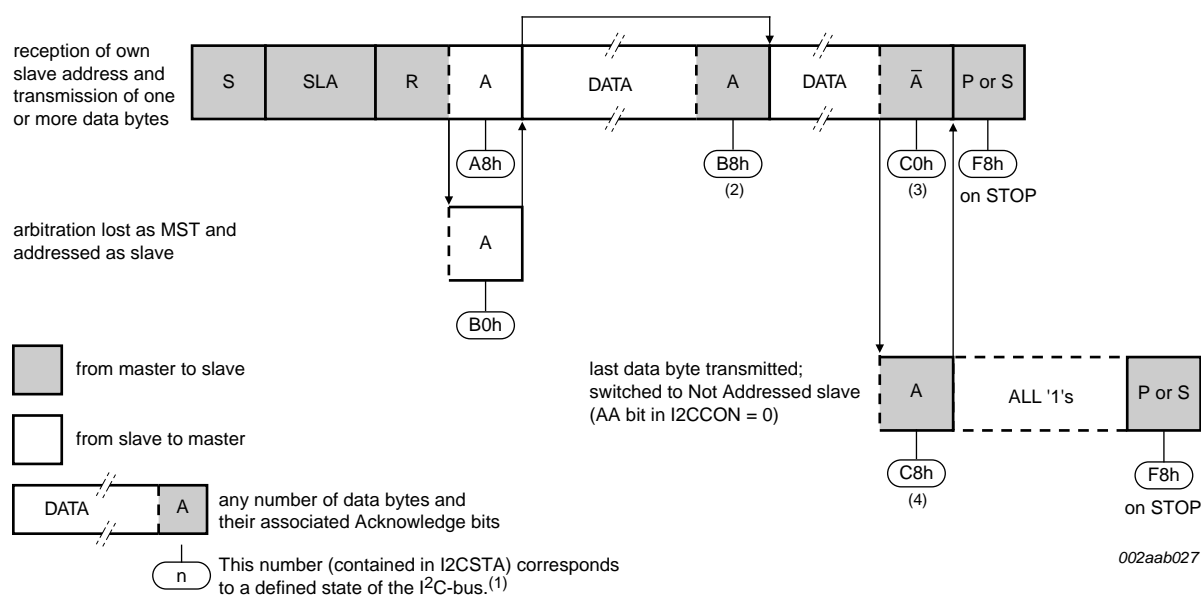

Fig 9. Format and states in the Slave Transmitter Byte mode (MODE = 0)
In the Slave Transmitter Byte mode, a number of data bytes are transmitted to a master receiver one byte at a time (see Figure 9). Data transfer is initialized as in the Slave Receiver Byte mode. When I2CADDR and I2CCON have been initialized, the PCA9665/PCA9665A waits until it is addressed by its own slave address followed by the data direction bit which must be '1' (R) for the PCA9665/PCA9665A to operate in the Slave Transmitter mode. After its own slave address and the R bit have been received, the Serial Interrupt flag (SI) is set, the Interrupt line ($\overline{\text{INT}}$) goes LOW and I2CSTA is loaded with A8h. This status code is used to vector to an interrupt service routine, and the appropriate action to be taken is detailed in Table 32.